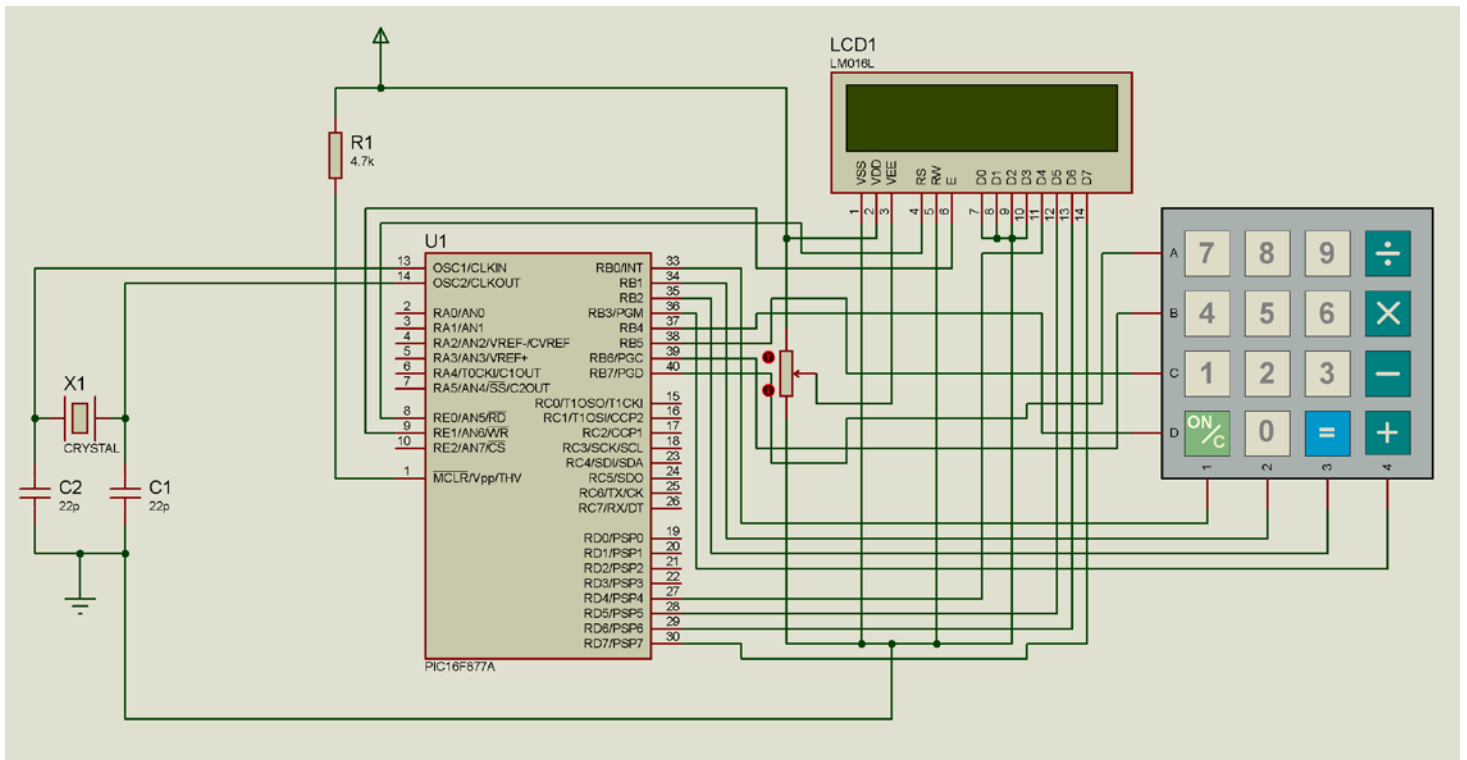

Figure 4: Keypad interfacing
6. Apply the connections in **Figure 4**.